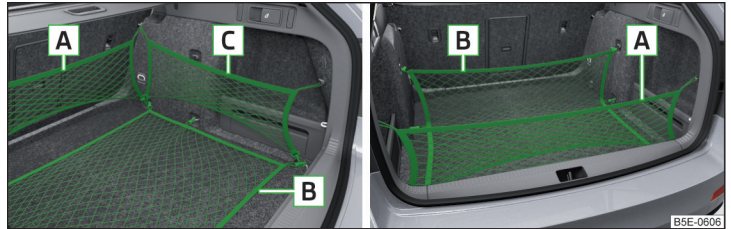
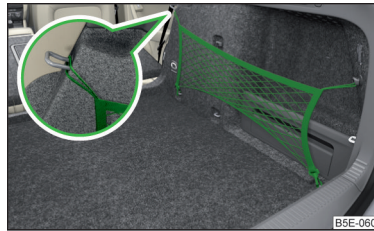

Fig. 128 Fastening examples for nets
Fig. 129 Fastening vertical pocket
**Fastening examples for nets** » Fig. 128 and » Fig. 129